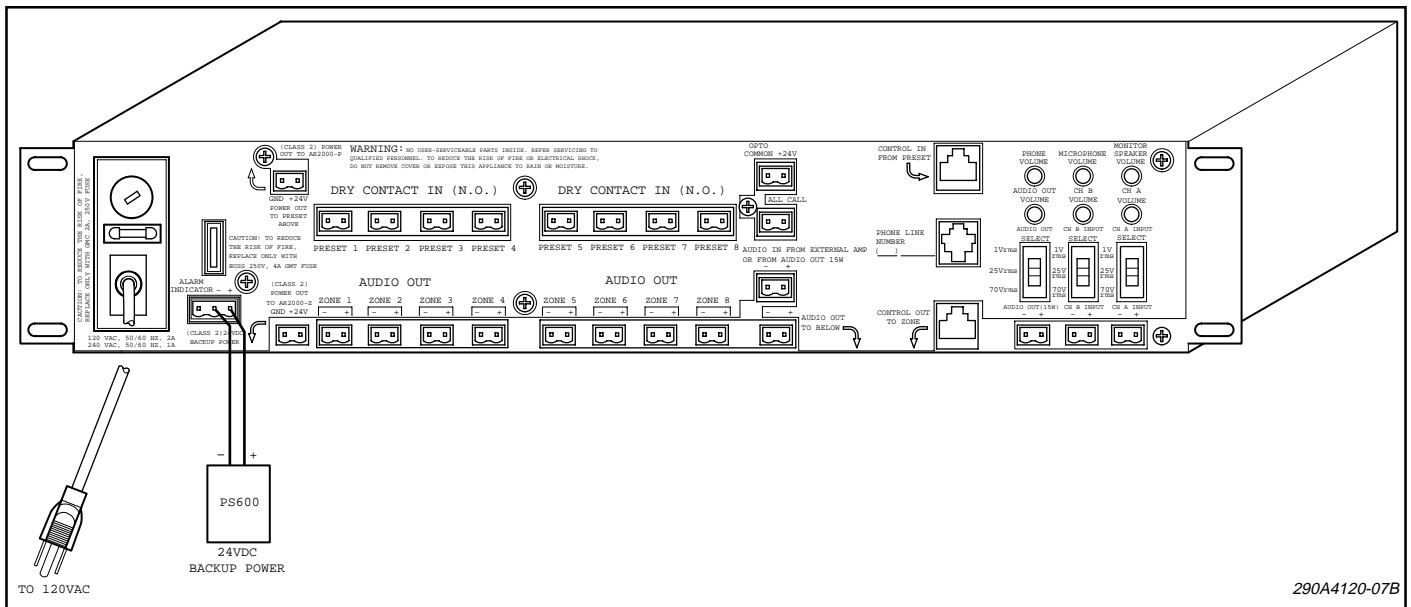

Figure 3-3.
#### A. Local Power (see figure 3-3).
*B. Backup Power (See figure 3-3).*
If it is desired to use 24 VDC either as a primary or auxiliary source of power, connect the “+” terminal of 24 volt DC power supply to the “+” terminal at the 24VDC BACKUP POWER terminal on the AR2000-M and “-” terminal of the 24 VDC power supply to the “-” terminal at the 24VDC BACKUP POWER terminal on the AR2000-M located in the back of the device. (See figure 3-3.)